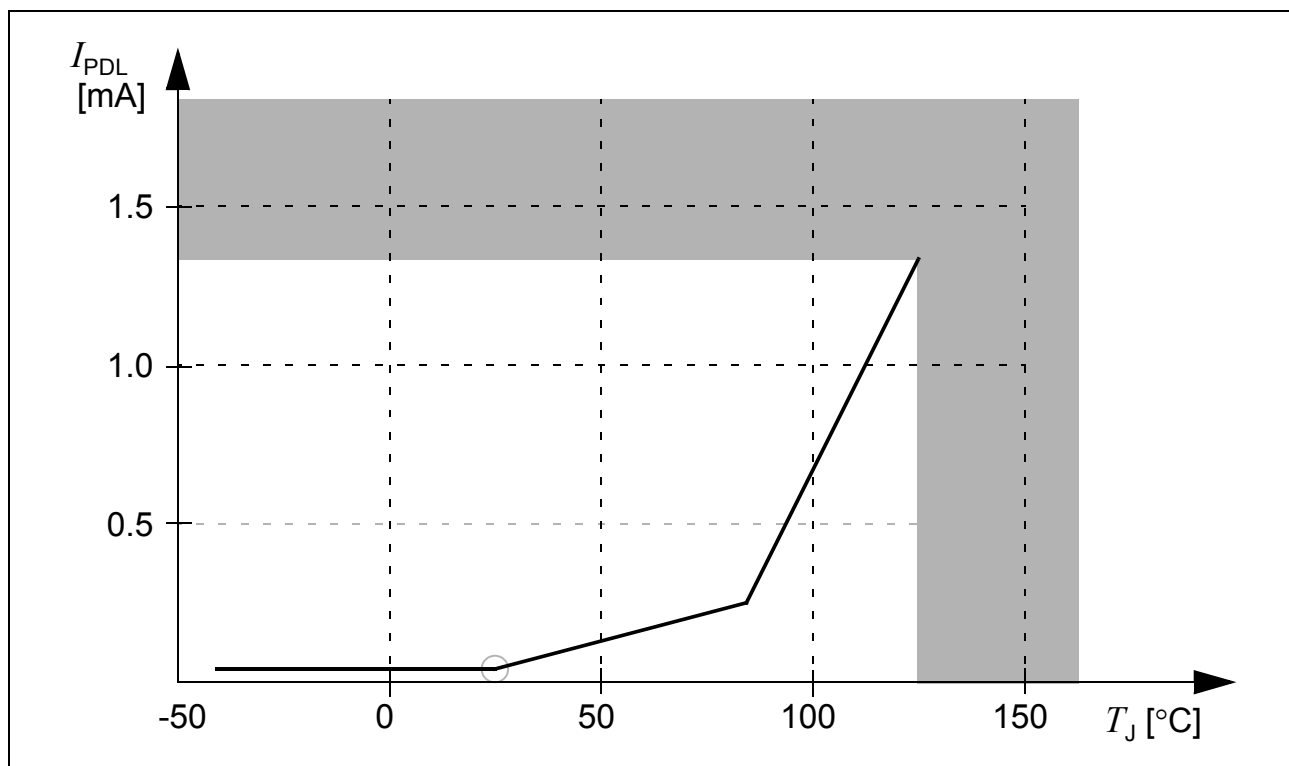

Figure 12 Sleep and Power Down Leakage Supply Current as a Function of Temperature
- 5) This parameter is determined mainly by the transistor leakage currents. This current heavily depends on the junction temperature (see Figure 12). The junction temperature T_J is the same as the ambient temperature T_A if no current flows through the port output drivers. Otherwise, the resulting temperature difference must be taken into account.